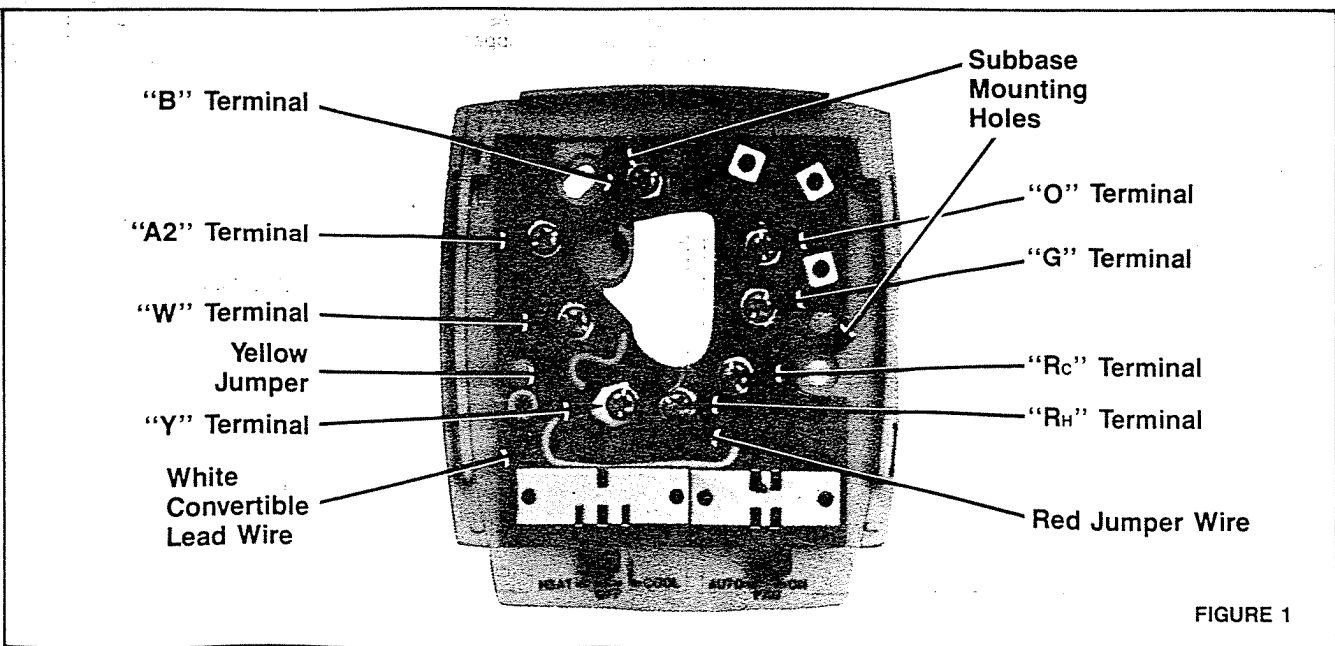

FIGURE 1
* Refer to Figure 1 for identification and location.